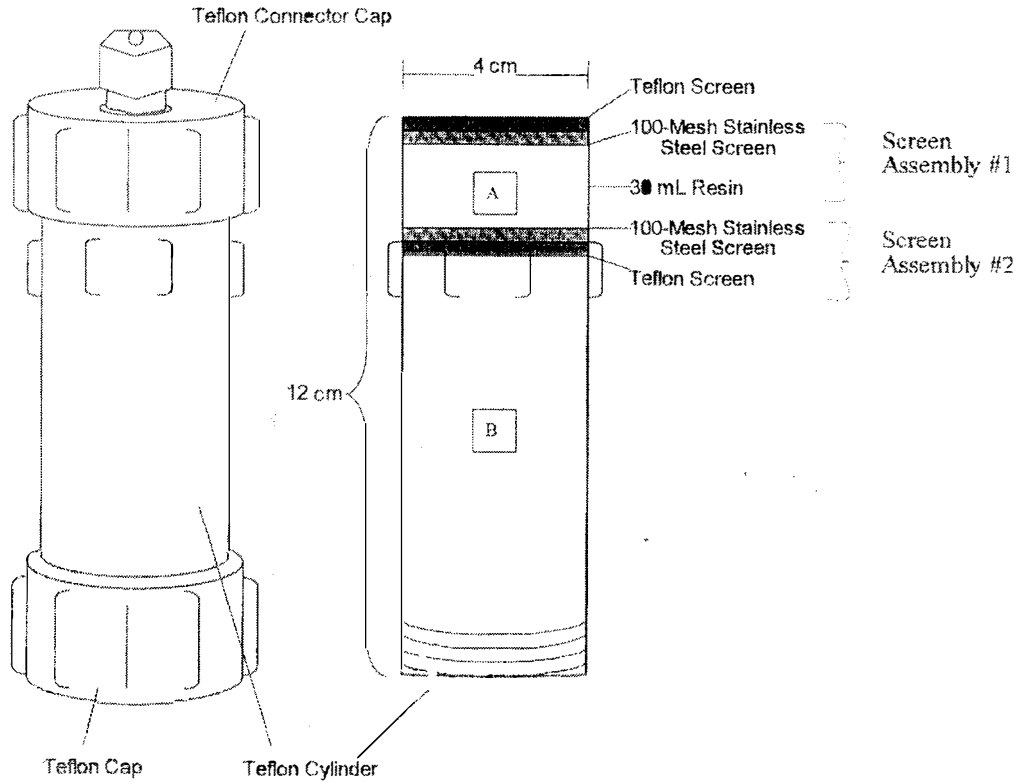

Figure 5. Teflon® Resin Cartridge
#### **3.4 Teflon® resin cartridge preparation (Figure 5 and 6)**
- 3.4.5 Locate the top (Figure 5) of the Teflon® cylinder (with the outside grips). Place the Teflon® Screen assembly inside and flush with the top of the Teflon® cylinder with the Teflon® screen positioned on the top.